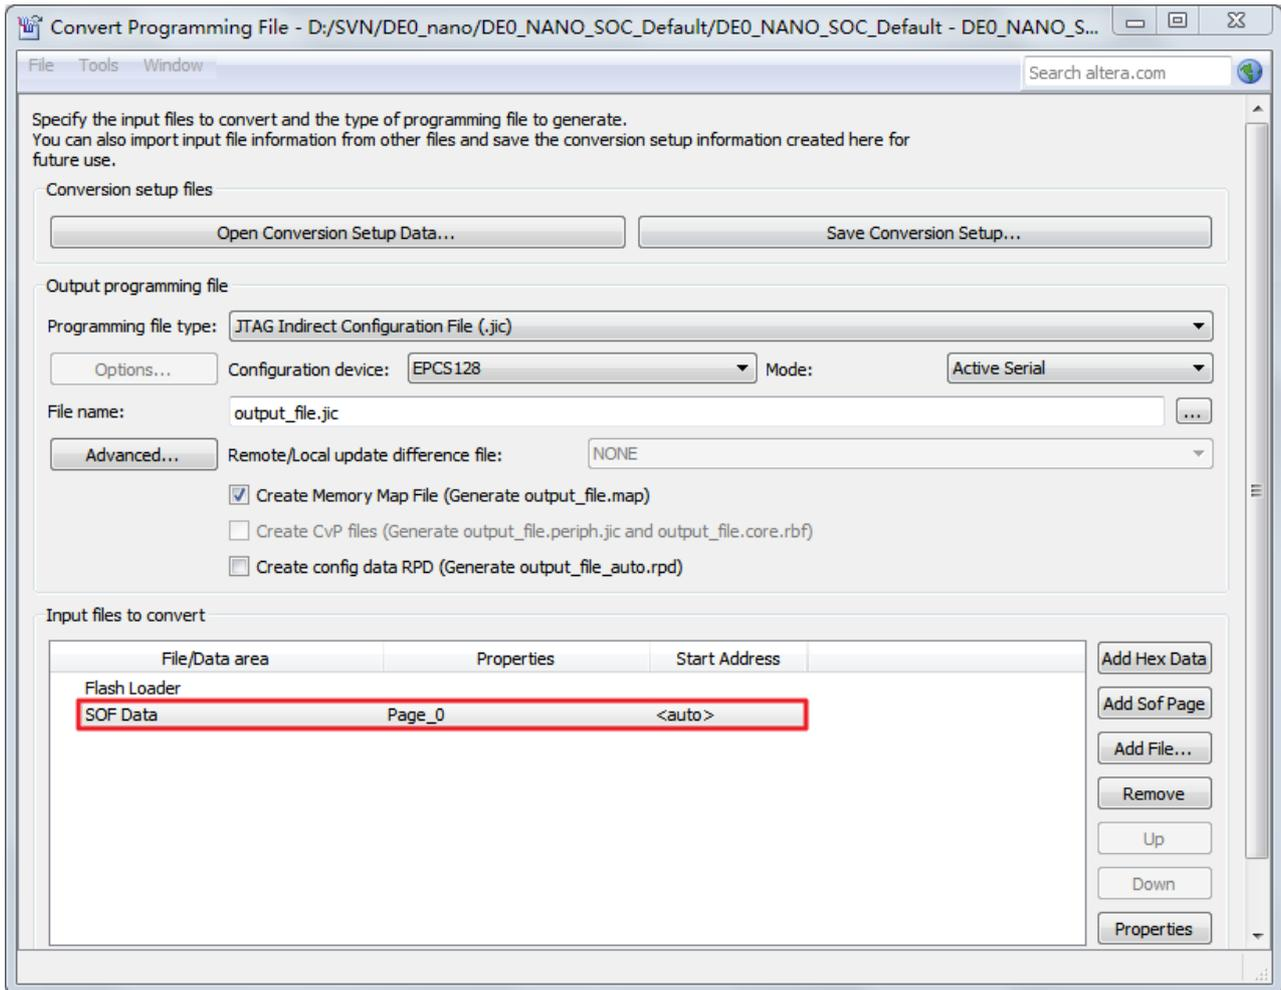

Figure 7-3 Dialog of “Convert Programming Files”
6. Click on the **SOF data** in the section of **Input files to convert**, as shown in **Figure 7-3**.